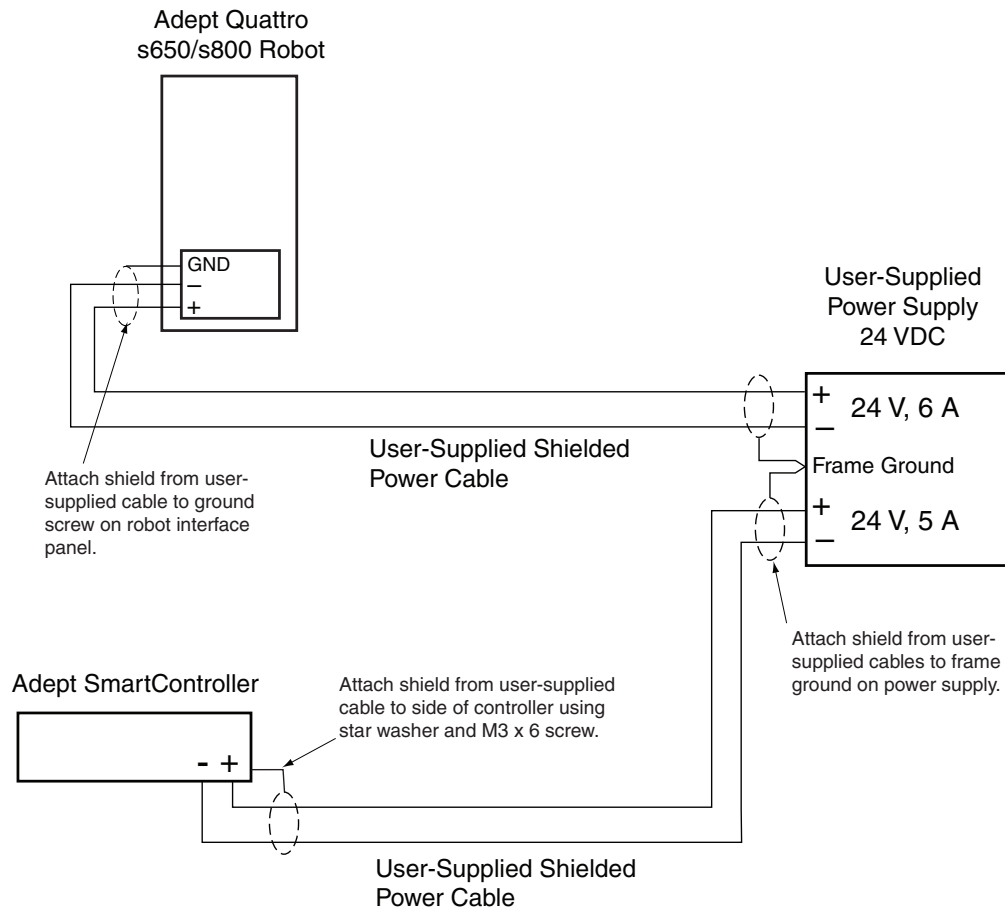

Figure 4-3. User-Supplied 24 VDC Cable
Shield Termination	Braided shield connected to ‘-’ terminal at both ends of cable. See Figure 4-3.
1. Connect one end of the shielded 24 VDC cable to the user-supplied 24 VDC power supply. See Figure 4-3.